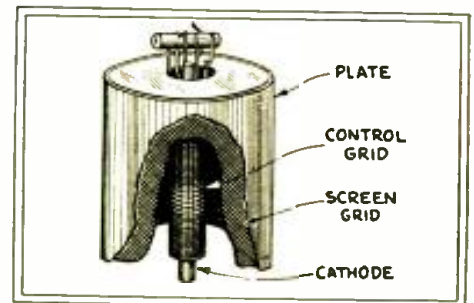

Fig. 2
The principle of the variable-mu tube is that its elements are not arranged symmetrically, as in previous tubes; for instance, at certain places, the voltage on the grid exercises less control on the flow of plate current than at others. In Fig. 2, let us say, the control grid is more open in the center than at either end. A voltage may be put upon it such that at either end no electron can pass through the mesh; and the two ends of the grid present an impassible barrier to plate-current flow. In the center, however, the mesh is more open, and a considerable number of electrons can pass. The tube, therefore, still operates with a greatly-reduced amplification factor.
Radio equipment of Uncle Sam's tanks is shown above: the tank in (1) is an old-timer, used for these experiments. Observe its flexible aerial. (2) Receiver and transmitter in position; (3) receiver alone with battery case below; the oblong end-pieces are buffers. (4) Chassis of the receiver which uses five UX-864 tubes; (5) transmitter removed from its case. (6) The assembly of Fig. 2 removed from its mountings. (Photos by Signal Corps; U.S.A.)